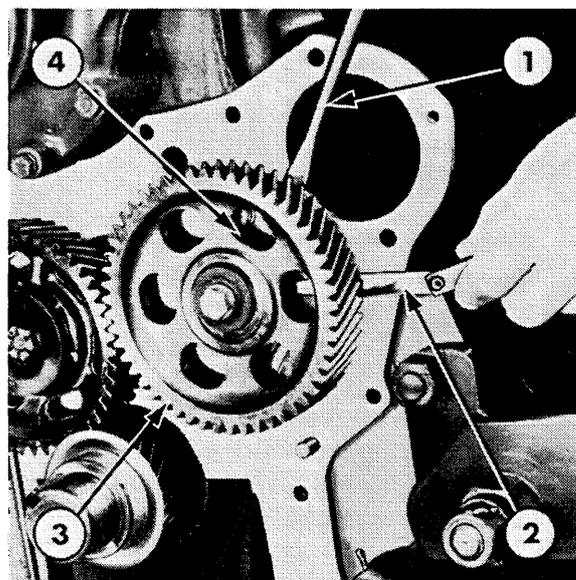

Figure 22
7. Pry the camshaft gear away from the thrust plate and using a dial indicator or feeler gauges, measure the clearance, Figure 22. Install a new camshaft thrust plate if the camshaft end play exceeds the specified limits, see "Specifications" — Chapter 4.